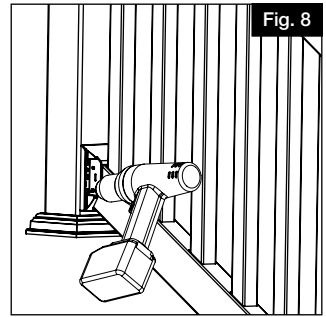

Fig. 8
- Ensure bracket is centered to post. Then, using $\frac{1}{8}$ " drill bit, pre-drill first bottom bracket screw hole through bracket hole and post (use the four outside corner holes) (Fig. 8).